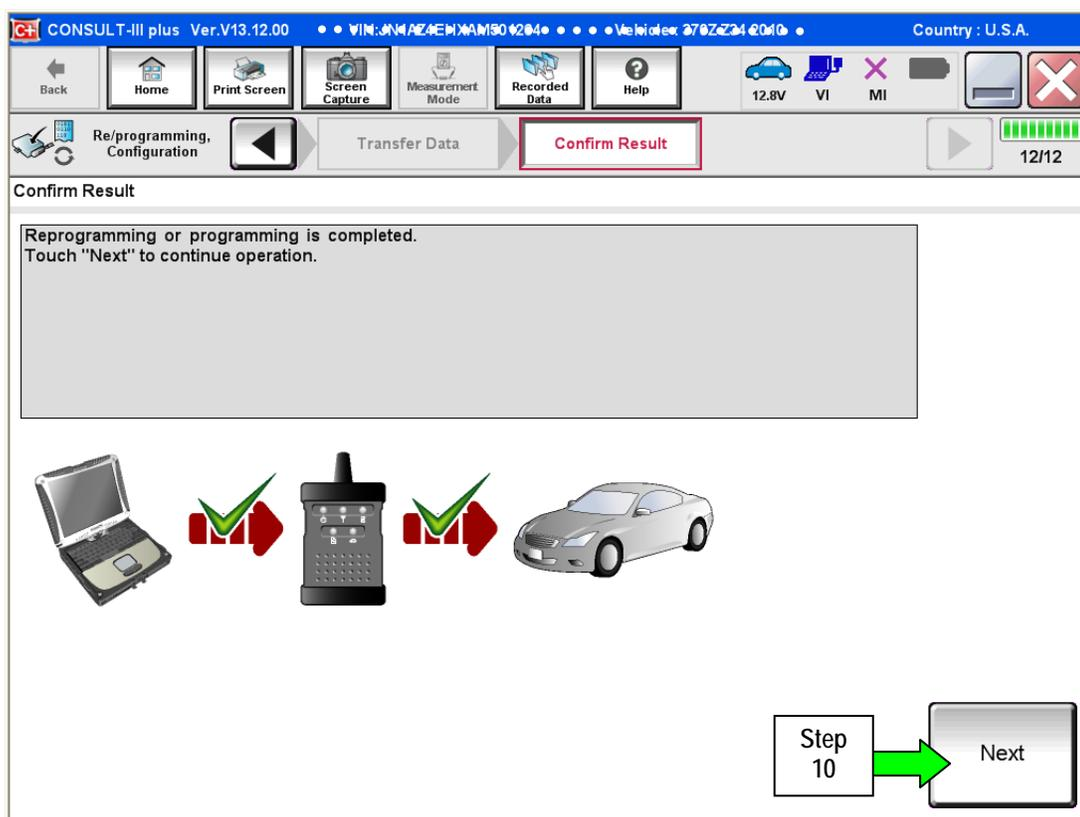

Figure 4
8. When the screen in Figure 4 displays, reprogramming is complete.
- If the screen in Figure 4 does not display (if reprogramming does not complete), refer to the information on the next page.